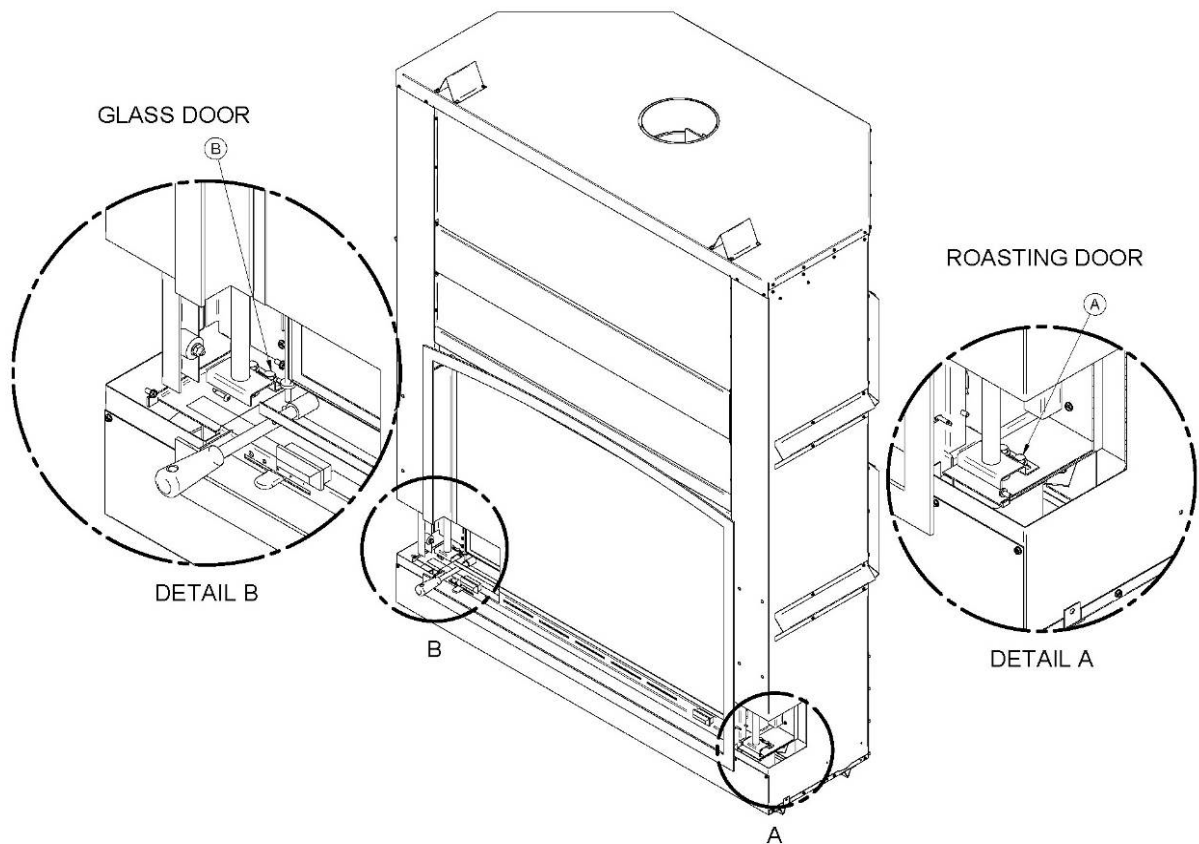

Figure 26
2. Unscrew one of the two bolts (Detail A) which are located in the lower right corner of the screen door (see **Figure 26**).
3. Unscrew the two bolts (Detail B) which are located in the lower left corner of the door (see **Figure 26**).